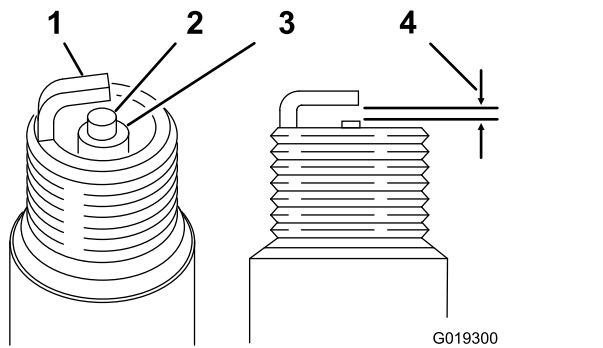

Figure 33
Air Gap: 0.70 to 0.80 mm (0.028 to 0.031 inch); refer to Figure 33
4. Set the air gap to 0.70 to 0.80 mm (0.028 to 0.031 inch) as shown in Figure 33).